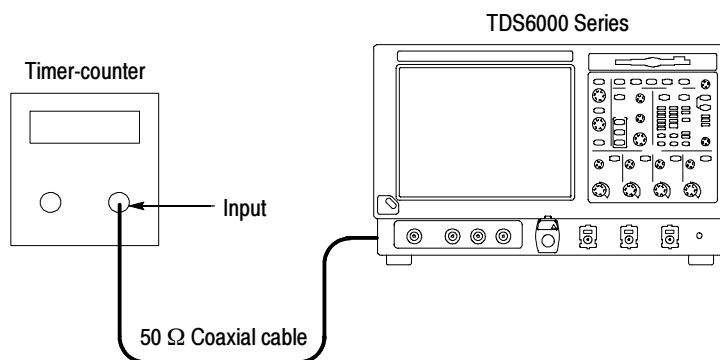

Figure 4-20: Initial test hookup
- a. *Hook up the test-signal source:* Connect, through a 50 Ω precision coaxial cable, the input of the timer-counter to **REF OUT** (see Figure 4-20).